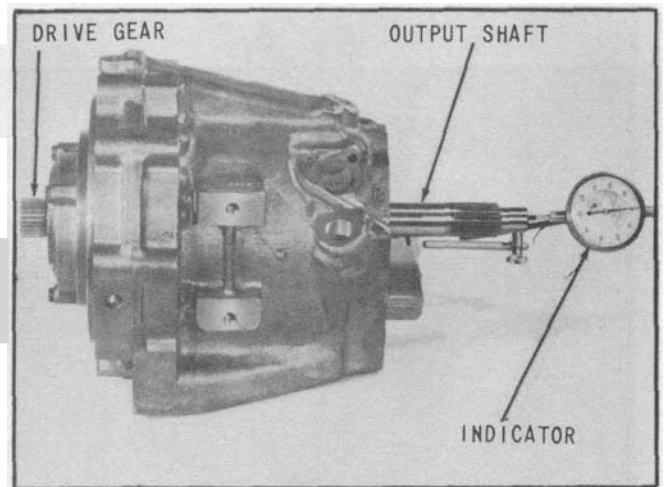

Fig. 16 Checking End Play
5. Forward and reverse unit end clearance should be checked by placing an indicator on either input shaft or output shaft as shown in (Fig. 16). Shove all parts to front of case, set indicator on zero, and then move all parts to rear of case by pushing on drive gear. End clearance should read between .004 and .043 inch.